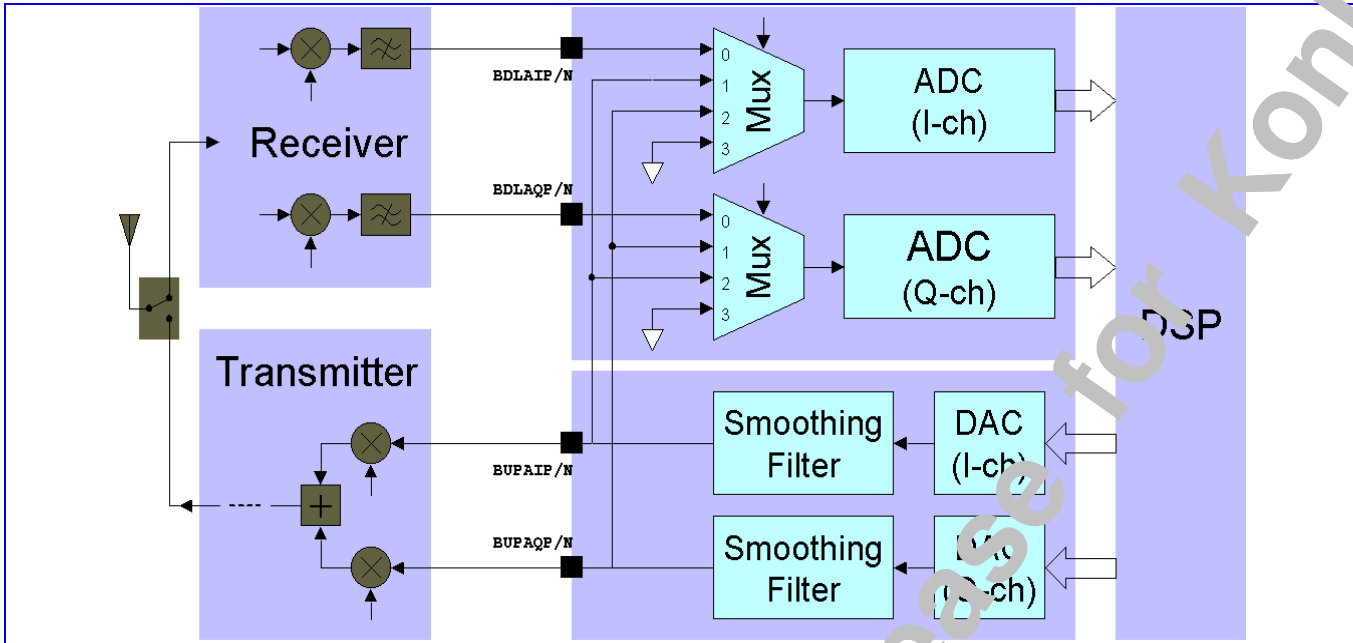

Figure 75 Base-band A/D and D/A Offset and Gain Calibration
The base-band downlink receiver (RX), together with the base-band uplink transmitter (TX) introduced in the next section, provides necessary analog hardware for DSP algorithm to correct the mismatch and offset error. The connection for measurement of both RX/TX mismatch and gain error is shown in **Figure 75**, and the corresponding calibration procedure is described below.